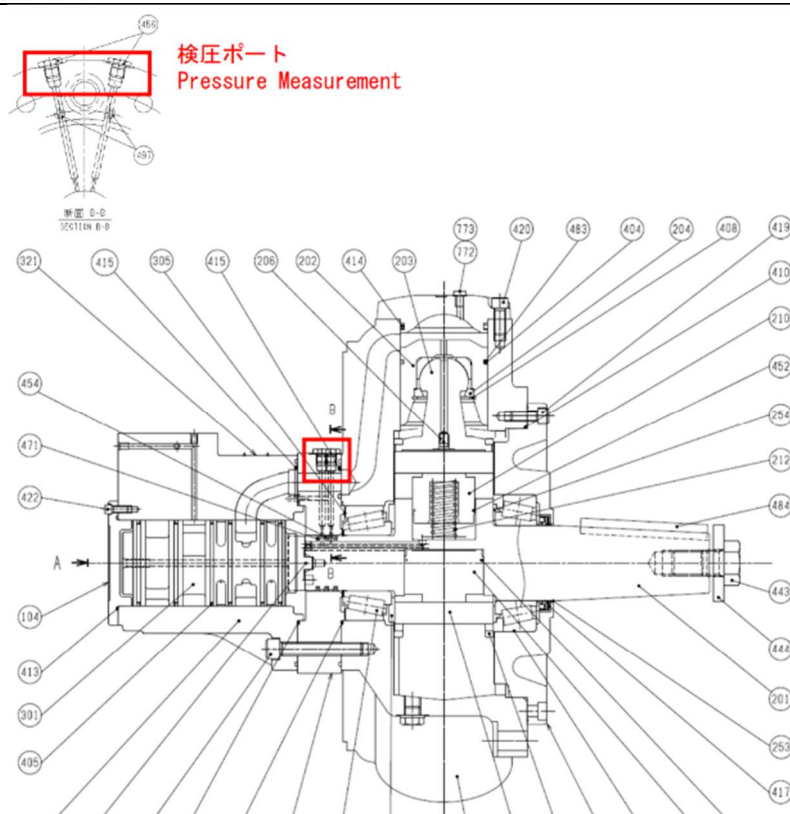

Fig.2 Location of the test port
- 1) Refer to Fig.2 and 3 on page 4. Install the test kit to the test port on the hydraulic motor.